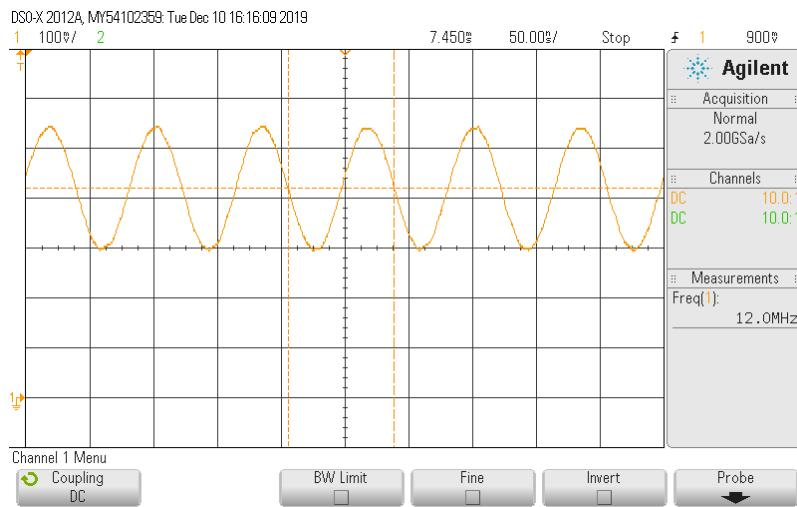

Figure 11.4: 12 MHz clock sine wave measured on the XOUT pin.
1. Connect a scope pin to the XOUT pin. A 12 MHz sinewave should be visible, see Figure 11.4.